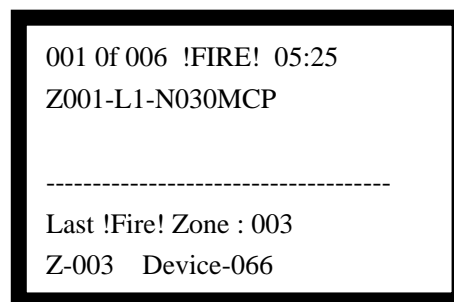

Fig. 5-4
2. Fig. 5-4 shows fire alarm screen in loop display mode.